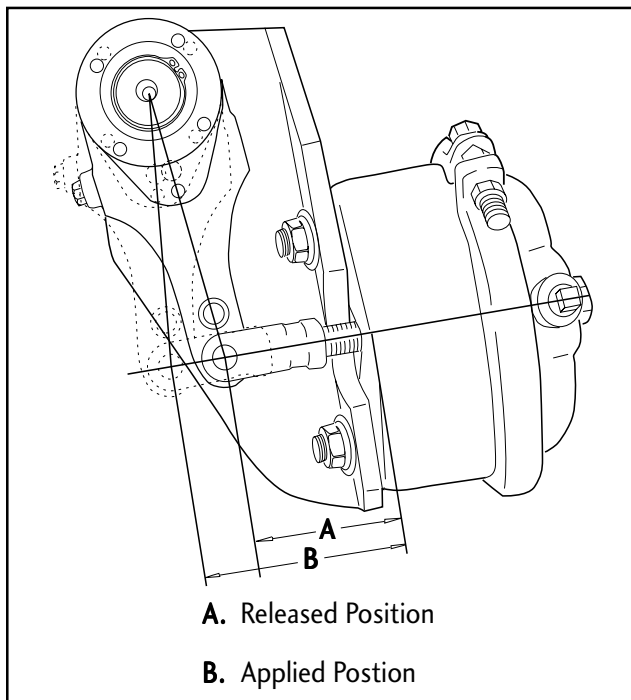

Figure 3
Brakes should be adjusted whenever the air chamber push rod stroke exceeds the maximum distance according to the chart shown in **Figure 2**. To determine if brake adjustment is required measure the push rod stroke with the brakes applied as shown in **Figure 3** on **page 10**.
**See Figure 3.**